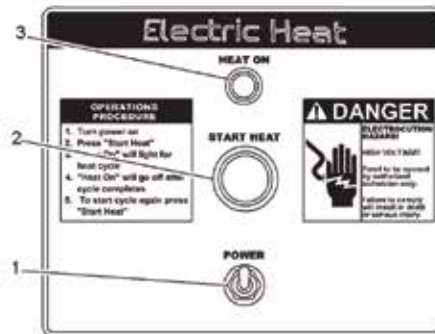

Figure 4-36. Electric Heat Control Box
The control box is where you will select the heating function before you begin to pave (**Figure 4-36**).
3. Flip the Power Switch (**Figure 4-36,1**) up to the ON position.
4. Press the Start Heat (**Figure 4-36,2**) Button.
- The heating cycle will begin and the Heat On Indicator Light (**Figure 4-36,3**) will illuminate.
NOTE: The Heat On Indicator Light (**Figure 4-36,3**) will stay on as long as the elements are heating the screed plates. Once the heating cycle is complete, the Heat On Indicator Light will go out.
- If the heat cycle has completed and the screed plates still require a higher temperature, restart the system by pressing the Start Heat (**Figure 4-36,2**) Button again. The system will run for the set time once more.
NOTE: If the heat system is running, and the operator presses the Start Heat (**Figure 4-36,2**) Button during a heating cycle, the heat will continue to operate normally, and the time cycle will re-set to beginning of the cycle. This will not hurt the system, and may be useful on cooler days to make the screed heat system run longer than normal without stopping.